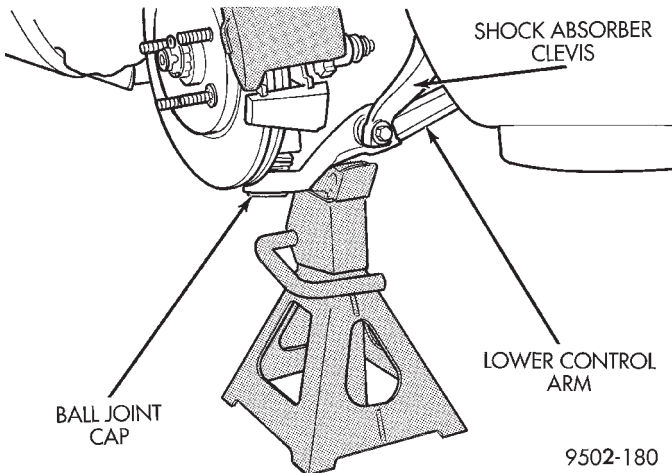

Fig. 21 Lower Control Arm Correctly Supported By Jack Stand
CAUTION: When supporting lower control arm with jack stand, do not position jack stand under the ball joint cap on the lower control arm. Position in area of lower control arm shown in (Fig. 21).
(14) Lower vehicle to the ground with a jack stand positioned under the lower control arm (Fig. 21). Continue to lower vehicle so the total weight of the vehicle is supported by the jack stand and lower control arm.